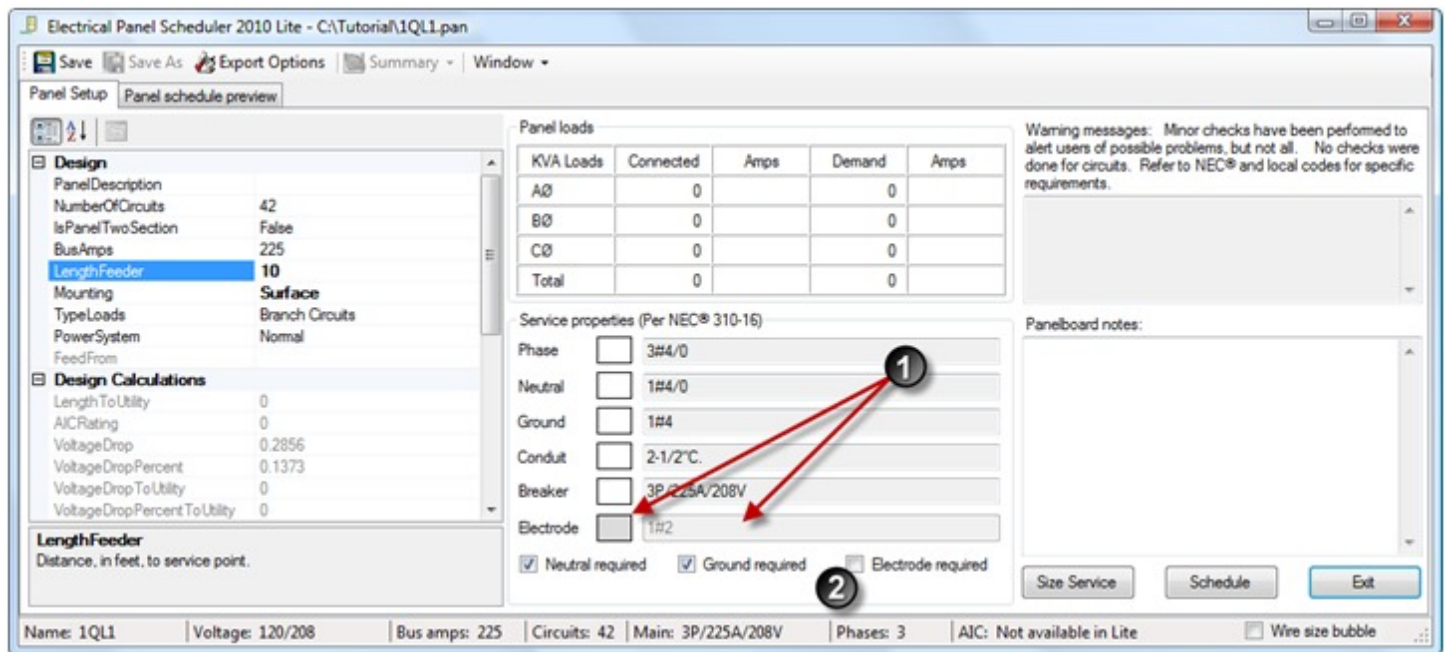

Figure 12
The panel scheduler should look like the illustration shown in figure 12. EPS sizes all wires regardless if they are needed or not. In this case, the electrode is not required for branch circuit loads, so the text box is
The electrode (1) can be turned on by clicking the electrode button (2) in figure 12.